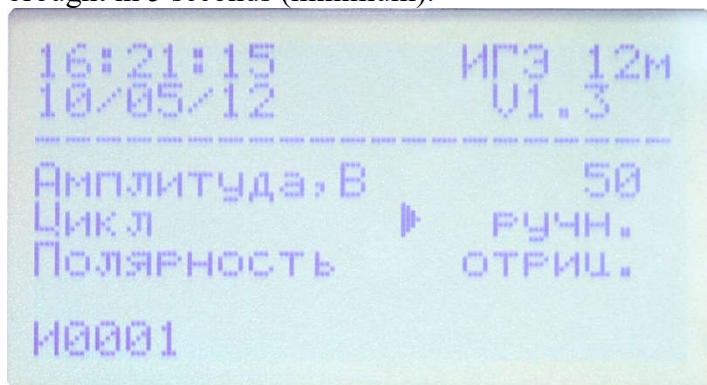

Figure 4
7.7 If the value 1 is set in "Cycle (цикл)", and "-" keyboard key is pushed, the generator switches to the manual control of pulse bringing mode (ref. Figure 4). The output pulse polarity is set by "+" and "-" keyboard keys. The cursor has to be set in "Polarity (Полярность)" line. There are two values to be selected – "positive (полож.)" - positive polarity and "negative (отриц.)" - negative one.